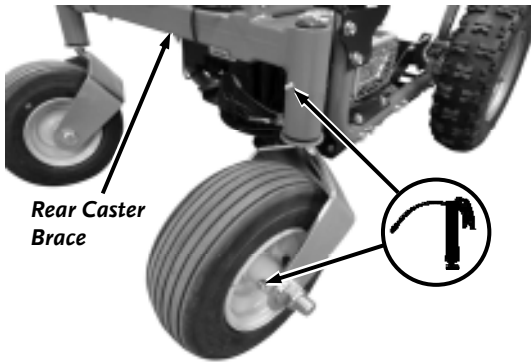

Figure 39
1. There are four Grease Fittings for the Caster Wheels: One at the right and left side of the Rear Caster Brace, and one on each Wheel Hub (**Figure 39**). Grease these four Fittings with #2 lithium grease, to keep the Wheel spinning freely, at least every 25 hours of operation.